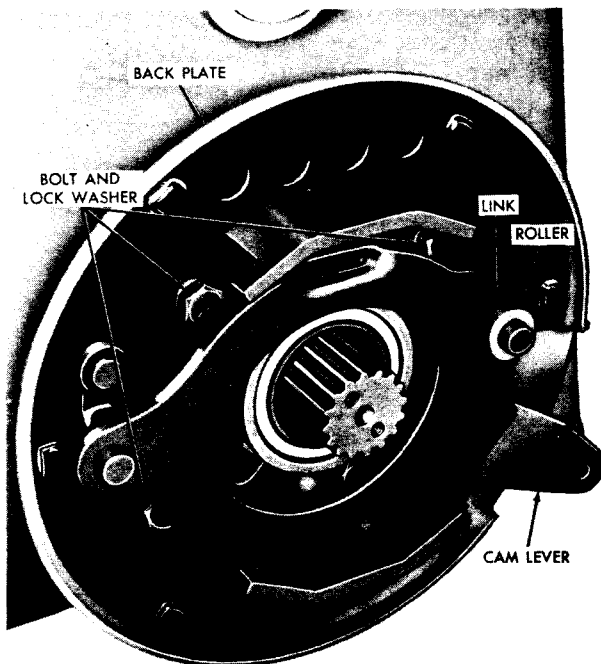

Fig. V-7. Brake cam lever and back plate
(3) Remove the roller from the brake link and remove the cam lever (fig. V-7). Remove three bolts and lock washers which retain the brake back plate. Remove the back plate.